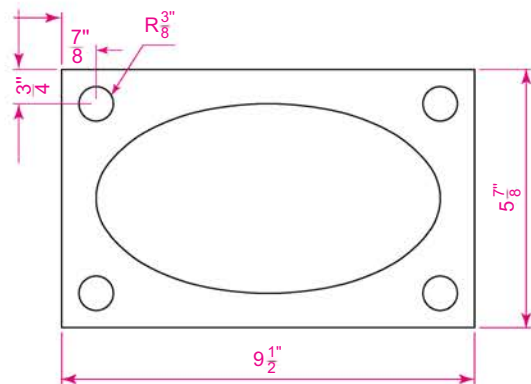

Fig. 4.26 Exercise 4
- With the **Line**, **Circle** and **Ellipse** tools, construct the drawing given in Fig. 4.26.